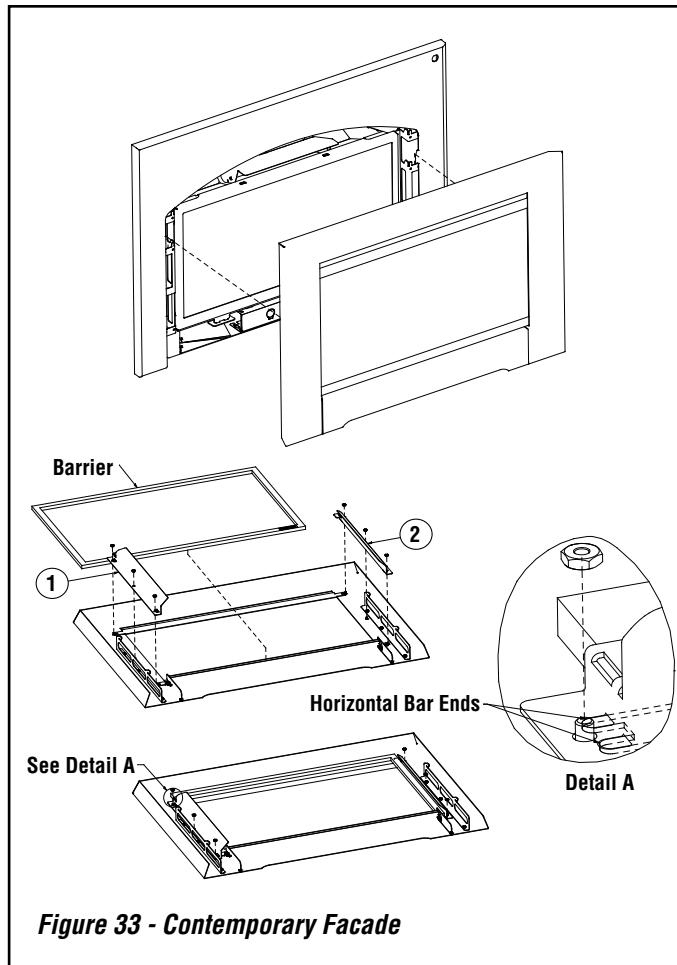

Figure 33 - Contemporary Facade
Contemporary Facade (see **Figure 33**)
2. Place sight obstrucers back over the threaded studs taking note that the upper and lower horizontal bar ends line up with grooves in sight obstrucers (see **Detail A** in **Figure 33**).